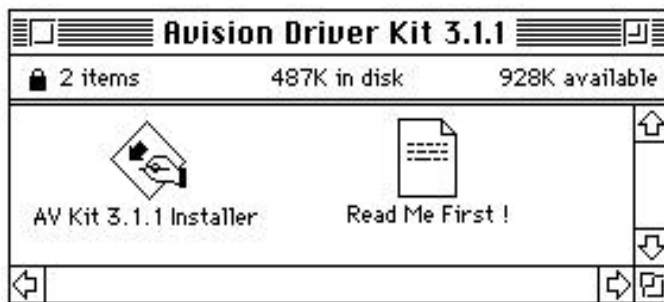

Figure 3-1 Avision Driver Kit 3.X.X
3. Insert "Avision PaperCom Supreme " into your disk drive. Open Avision Driver Kit icon. The Avision Driver Kit 3.X.X as Fig. 3-1 will appear. Read "Read Me First" for notice or information which you should be aware of.